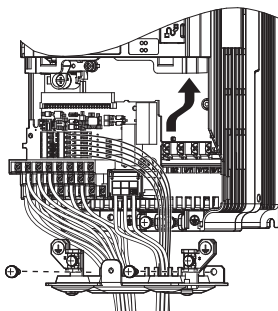

Figure 7.42 Install the Terminal Board
1. After wiring the main circuit, connect the terminal block to the drive as shown in Figure 7.42. Use the installation screw (M3: 0.49 - 0.73 N·m) to fasten the terminal block into place.